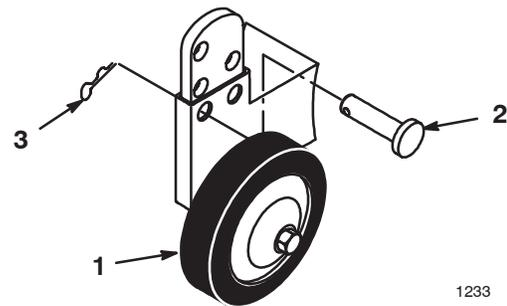

Figure 7
A. Remove the hairpin cotter and pin to change the hole location (Fig. 7).
B. Select a hole position so that the gage wheel is 3/8 inch (10 mm) off of the ground for the height-of-cut to be used (Fig. 7).